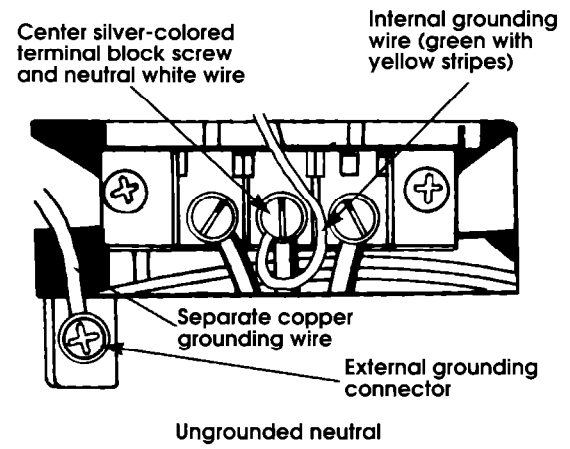

Figure 6
4. Connect the neutral wire (white) of the power supply cord and the internal grounding wire (green with yellow stripes) to the center, silver-colored, terminal screw of the terminal block. Connect the other wires to the outer terminals. Tighten screws firmly. (See Figure 6.) For plain-end wires, see "Direct wiring connection," Panel F.